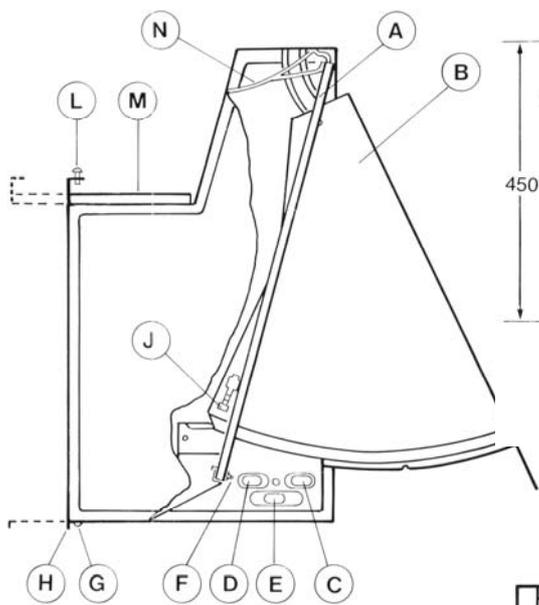
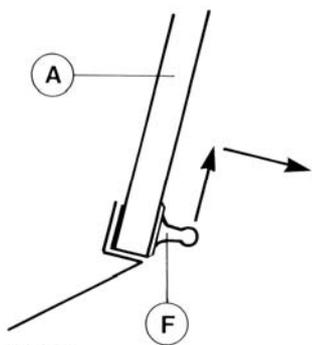
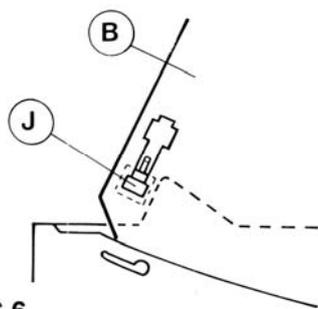

FIG.1
FIG.5
FIG.6
#### **Fastening the Extractor Hood to the wall, see figures 1 to 6.**
Open the door panel by lifting it forwards. Remove the grille by pulling the grips F until free, then pull in the direction shown in Figure 5. In Figure 1 notice the position of the catches J on the door side panels B. Push these catches upwards as far as possible, Figure 6. Then remove the metal door by lifting it forwards and upwards.
### **Mounting the Door Panel, See Figures 1 and 7**
### **USING THE EXTRACTOR HOOD, See Figures 1 and 8**
**ISOLATE** the mains supply. Open the door panel by lifting it forwards. Remove the grille by pulling the grips F until free, then pull in the direction shown in Figure 5. Release the two wires Y and remove the filter material K.
Replacing the carbon filter: **ISOLATE** the mains supply. Open the door panel by lifting it forward. Remove the grille by pulling the grips F until free, then pull in the direction shown in Figure 5. Turn the filter Z anti-clockwise to remove the old filter. Insert the new filter and turn it clockwise to engage. Reassemble the appliance.
**ISOLATE** the mains supply. Open the door panel by lifting it forwards. Remove the grille by pulling the grips F until free, then pull in the direction shown in Figure 5. If the lamp(s) fail to light when correctly following the instructions for use above, first check that they are screwed in tightly. Reassemble the appliance.